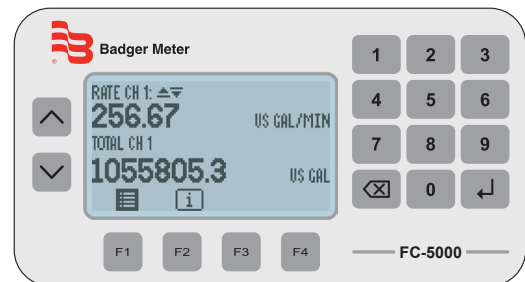

Figure 2: Dual display
- FLOW RATE CH 1 + FLOW TOTAL CH 1 (Dual Display) (*Figure 2*)